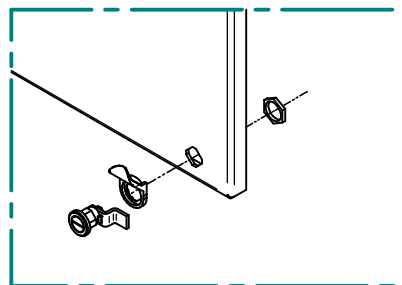

FIG. 5
5. Install 1/4 turn latches. (Fig. 5)